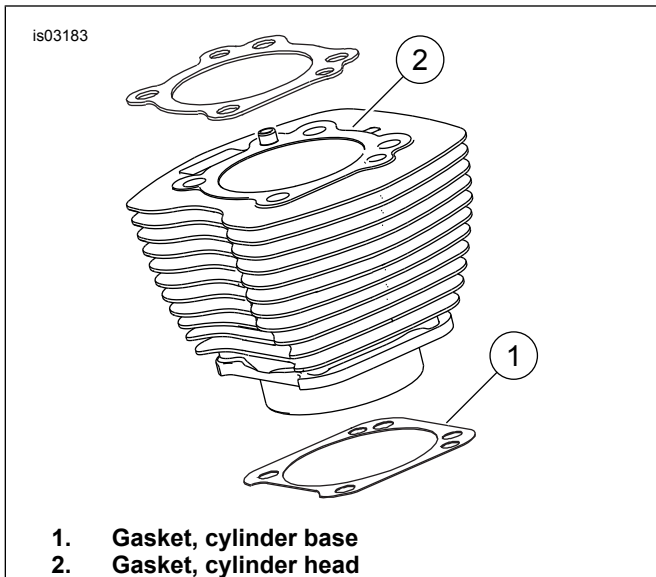

Figure 1. Cylinder Gaskets
- See Figure 1. The 103.1 mm (4 in) cylinder base gasket (1) and cylinder head gasket (2) eliminate the need for O-rings. Do not use O-rings on cylinder dowels or cylinder spigots.
- When installing new base gasket (1), install with embossed side down and concave side up.